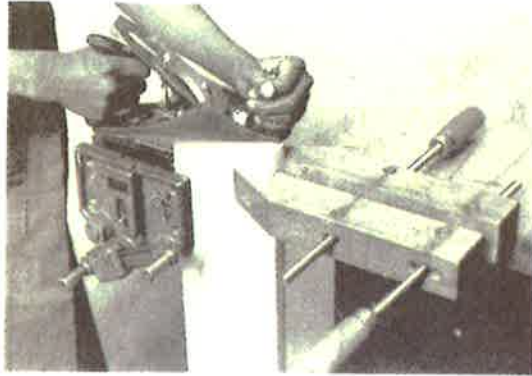

Fig. 10-13. Planing the end of a wide board.
2. Fasten the board in a vise with the selected end up (see Fig. 10-13).
4. Plane the end until it is square with the planed surface and edge (Fig. 10-13). Hold a wide board in a vise with a hand screw clamp. Fasten it to the board so that the clamp rests flat on the bench top.